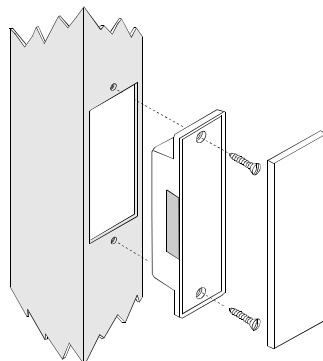

Figure 5. Flush Mounting
B. Flush mounting (see Figure 5)